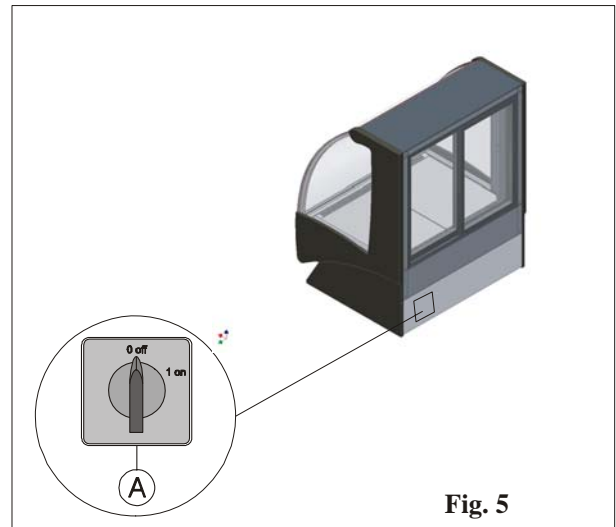

Fig. 5
- 2) Activate the display cabinet master switch, which is found on the rear protection panel. To introduce the electric power supply to the display cabinet, place the master switch at position “1” (fig. 5 pos. A).
To stop the plant act on switch (A), which is found behind the rear protection panel. Position the master switch at “0” (fig. 5 pos. A) disconnecting the display cabinet power supply.
After turning off the power to the machine, you must then disconnect the main switch, which is located on the lower rear, left side of display cabinet. (see fig 5)